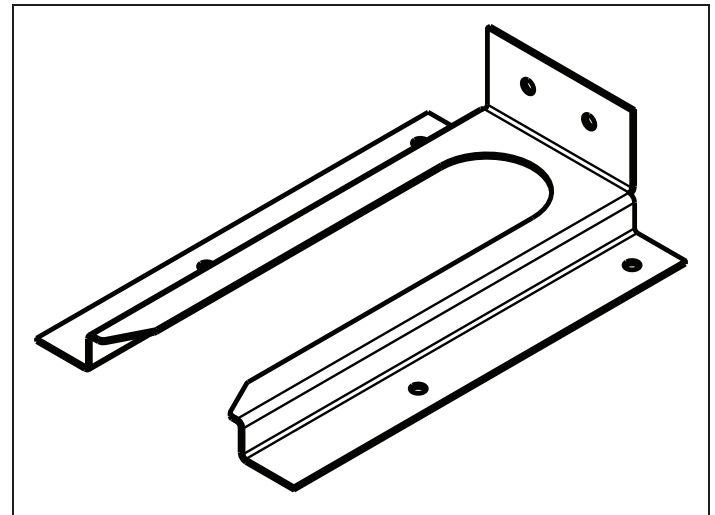
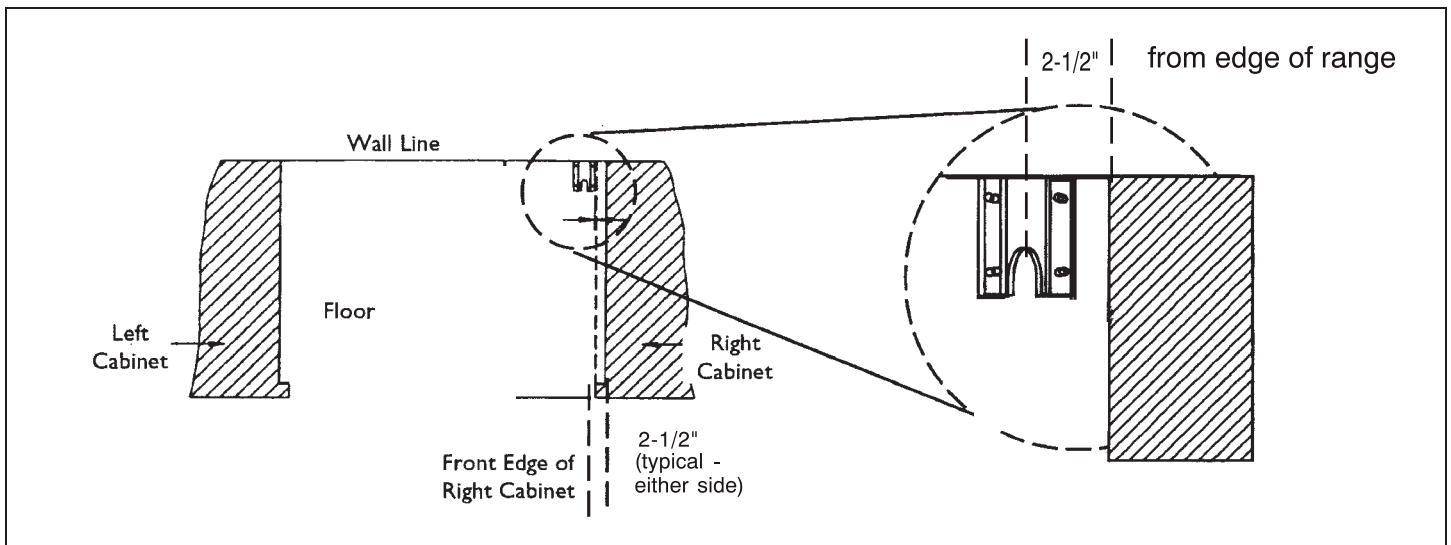

Figure 7a: Anti-tip Bracket
Figure 7b: Placement of Anti-Tip Bracket (Top View)
See Figure 7a and Figure 7b.
1. Place bracket on floor in position shown in Figure 7b.